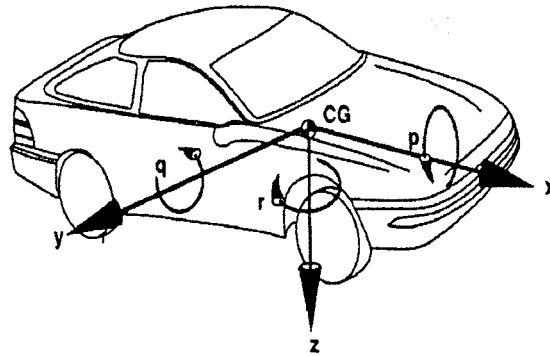

Figure 1a
- (a) Based on the vehicle motion in **Figure 1a**, identify the direction of forces (x, y and z) and moments (p, q and r) acting on the vehicle.